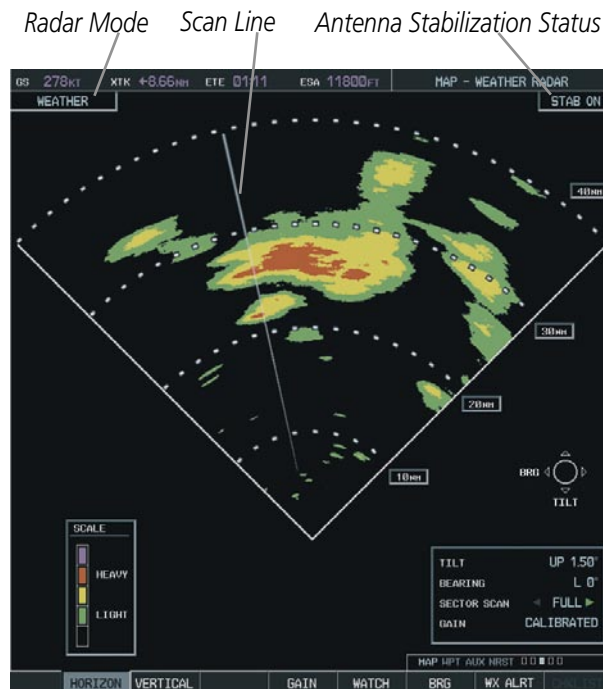

Figure 6-46 Horizontal Scan Display
- 6) The horizontal scan is initially displayed (Figure 6-46). If desired, select the **VERTICAL** Softkey to change to vertical scanning.